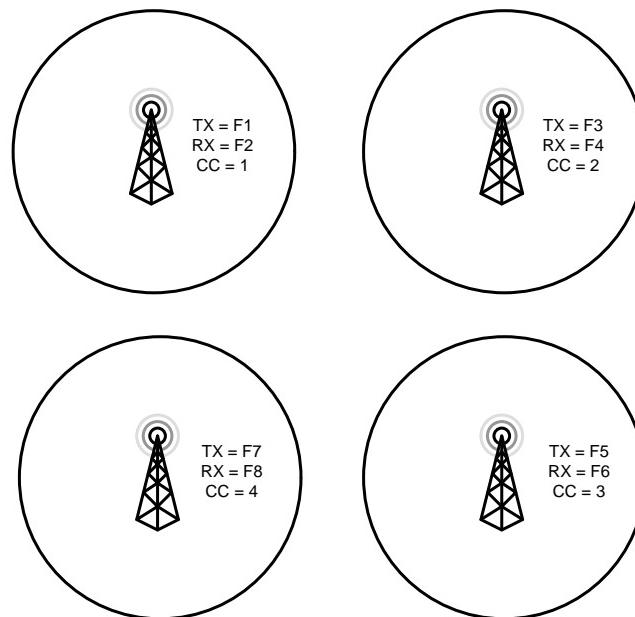

Figure 2-9 Isolated Non-Overlapping Coverage (Rural)
2. **Isolated Non-Overlapping Coverage (Rural)** – This type of coverage is representative for rural communities, where sites are separate by considerable distance thus proving non-overlapping RF coverage; refer to Figure 2-9. The non-overlapping sites may reuse the frequencies. A subscriber will only be with coverage of one site at a time. A radio user transitions from one site to another within several hours.